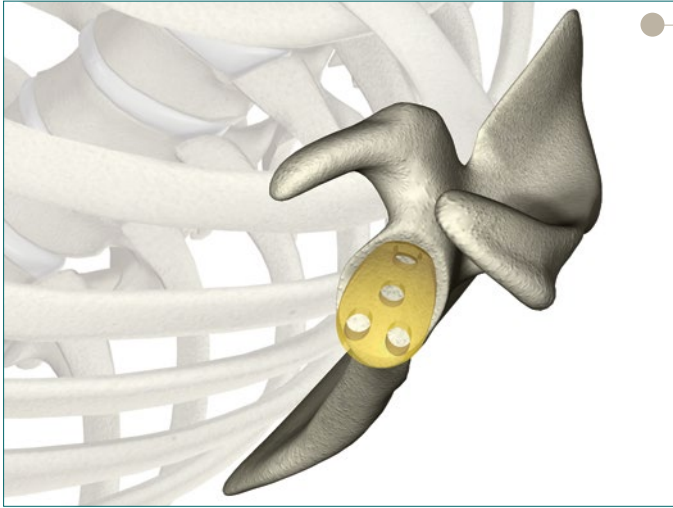

Figure 15
- ▶ To use the drill driver in variable angled mode, loosen the drill bit by tightly grasping the metal collar and slowly activating the drill in REVERSE mode. The cone shaped end of the drill bit will now be outside of the metal sleeve (Figure 15, Top).
- ▶ To use the drill driver in a straight or fixed angle mode, tighten the drill bit by tightly grasping the metal sleeve and slowly activating the drill in FORWARD mode. The cone shaped end of the drill bit will sit flush to the metal sleeve (Figure 15, Bottom).